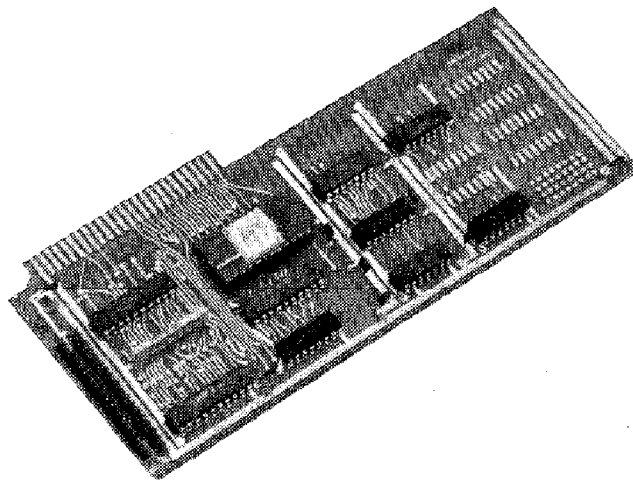

FIGURE 3.1 INTERFACE CARD
2. Plug the CORVUS Drive personality card (see figure 3.1) into slot two and the floppy controller into slot six. This temporary setup will allow you to boot the Pascal system from the floppy drive.